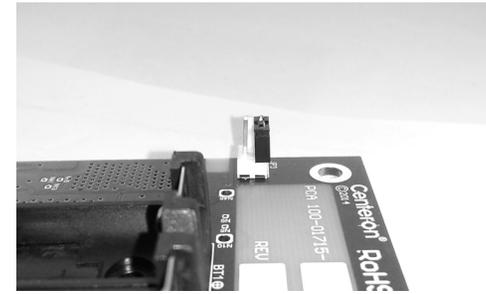

Figure 2. Disable Jumper in enable position
Note: Store the Disable Jumper by turning the Jumper 90° from original position and place it on one pin of JP3 for future use if needed. (See Figure 2)
2. Remove the Monitor's Cover by removing the 4 Phillips head screws (See Figure2).